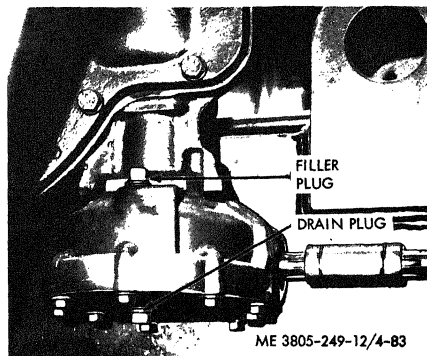

Figure 4-83. Scarifier control lower housing.
(2) Lower housing. Refer to figure 4-83.